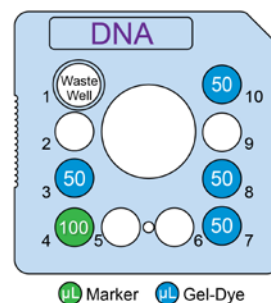

Figure 1. Low-throughput
7. Using a Reverse Pipetting Technique, add gel-dye to chip well 3, 7, 8, and 10 as shown in **Figure 1. Low-throughput** or **Figure 2. High-throughput.**
8. Add HiSens DNA Marker to chip well 4 as shown in **Figure 1. Low-throughput** or **Figure 2. High-throughput.**